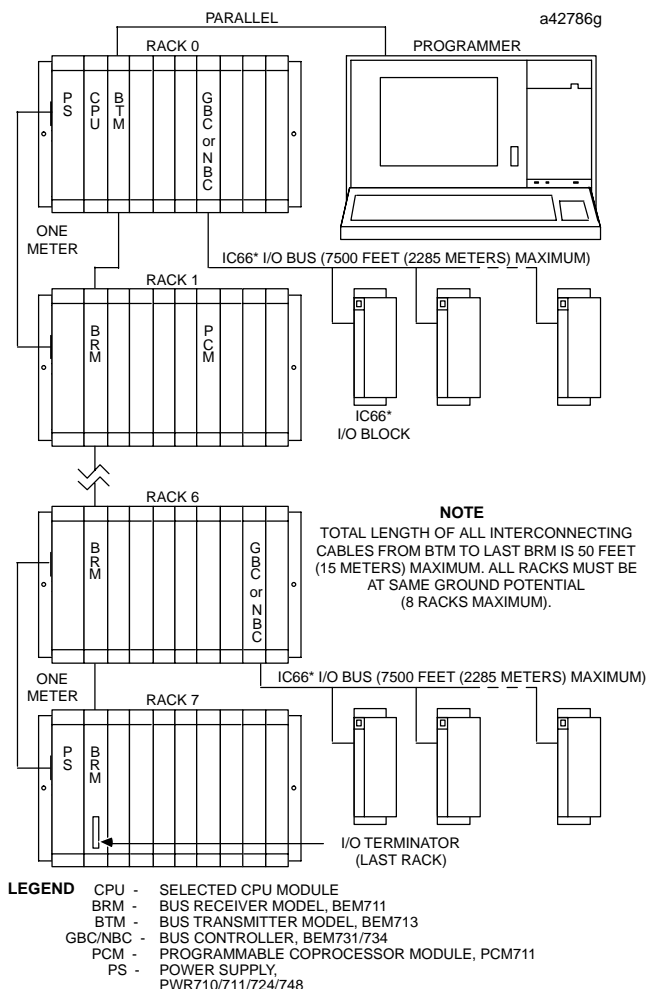

Figure 1. Typical PLC System Diagram
- Install in slot 1 of rack 0. (See Figure 1)